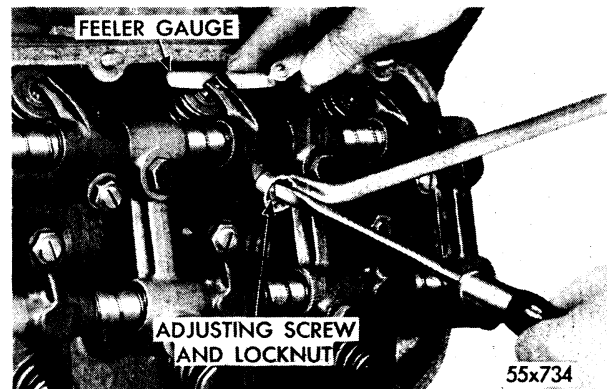

Fig. 3—Adjusting Valve Clearance
d. The valve tappet clearance is adjusted at the rocker arm as shown in Figure 3 to the following values: